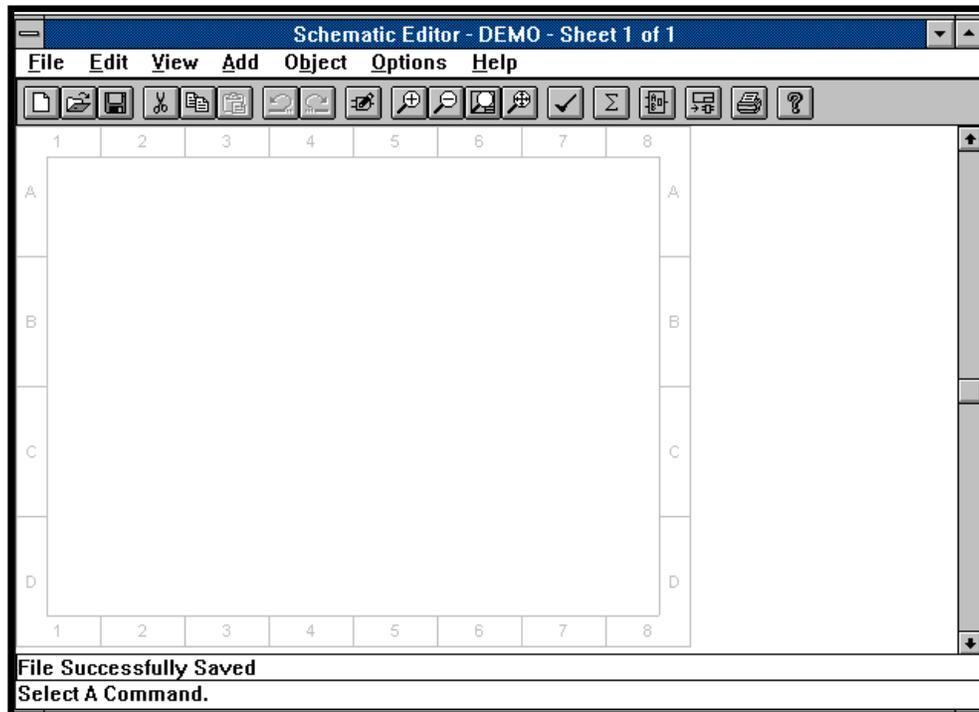

Figure 1-5. Schematic Editor Window
9. The schematic editor appears with a blank schematic (Figure 1-5). From the menu bar, select **Add** ⇒ **Symbol**.